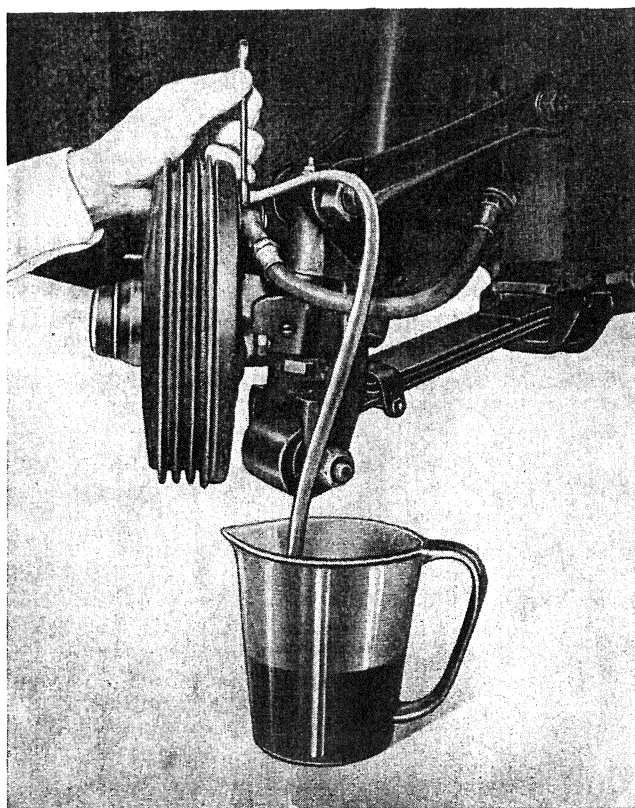

Fig. 367 - Left front wheel brake bleeding.
2) Fit one end of bleeder hose A. 10103 on wheel cylinder bleeder screw. Immerse the other hose end in a transparent vessel partially filled with brake fluid (fig. 367).